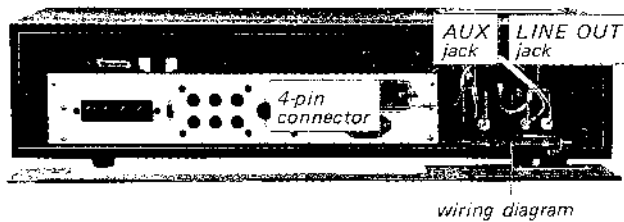

Fig. 2-3. Connector removal
2. Disconnect the two pair of phono plugs, 4-pin connector from the cassette deck as shown in Fig. 2-3.
**Note:** When reconnecting the phono plugs, refer to the wiring diagrams sticked inside the wooden case as shown in Fig. 2-3.